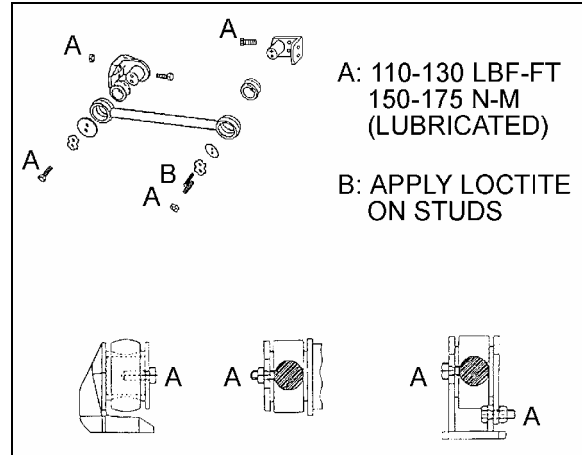

FIGURE 12: RADIUS ROD INSTALLATION
1. Lightly spray the radius rod support with water. Place the radius rod end over the radius rod support (Fig. 12).